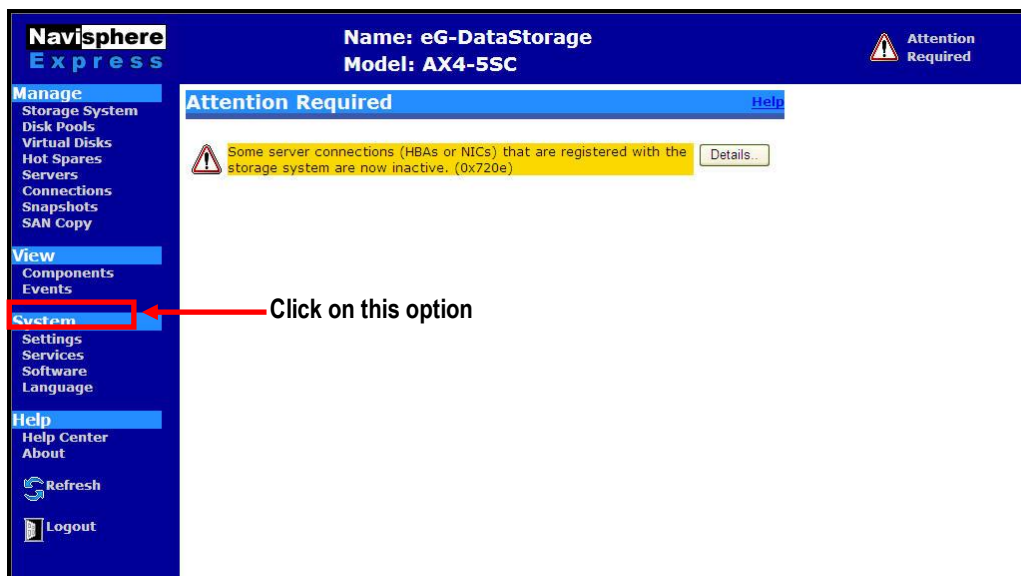

Figure 1.4: The Navisphere Express Console
3. The **Navisphere Express Console** will then appear, as depicted by Figure 1.4.
4. From the list of options provided in the left panel of Figure 1.4, select the **Services** option under the **System** head (as indicated by Figure 1.4).